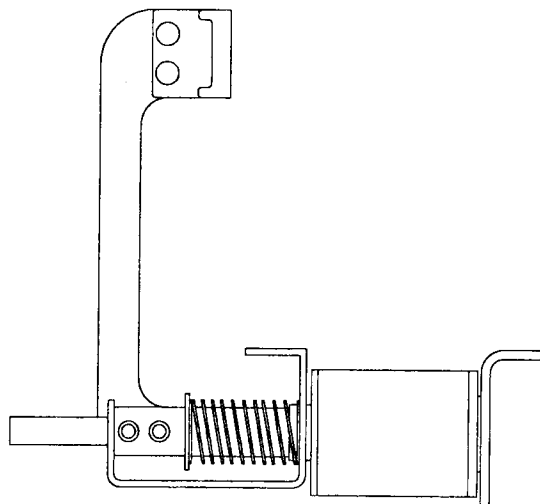

Fig. 4
- d. Entire kicker assembly can be removed from mini-playfield. (See Fig. 4)